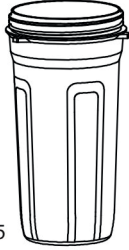

Fig 16
- Press the vacuum lid (13) down firmly. Fig 16.